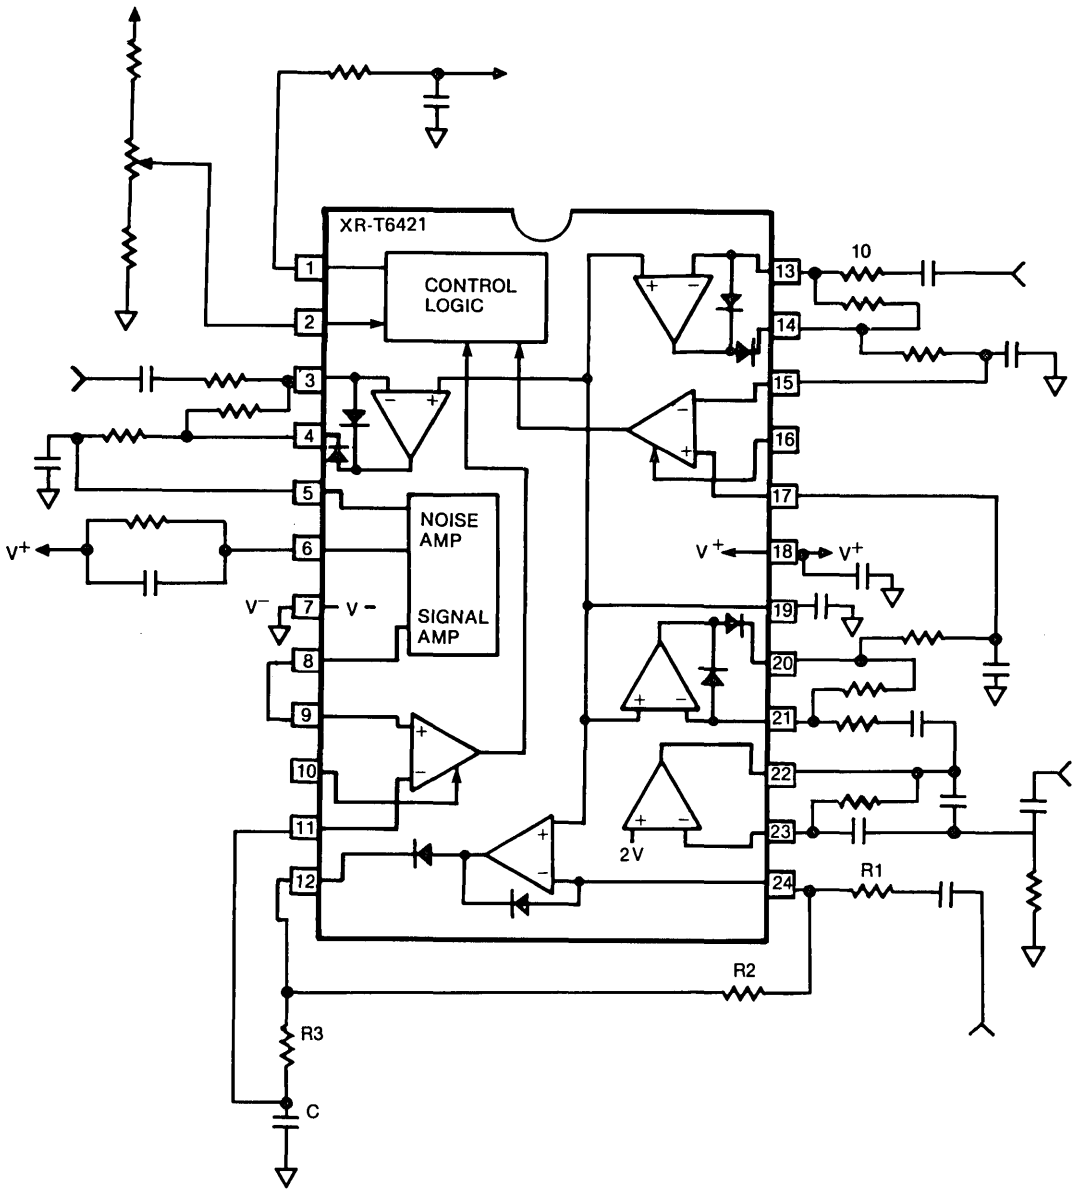

Figure 1. Typical Application Schematic
**Rectifiers** — All four rectifiers are operational amplifiers with the noninverting input connected to  $V_{REF}$ . The circuit contains the diodes internally to provide the function of a negative peak detector. Using the typical application schematic of Figure 1, the "gain" of the rectifier is  $R2/R1$ . The output is then filtered using another RC network. The attack time is given by  $R3.C$  and the decay time by  $(R2 + R3).C$ .